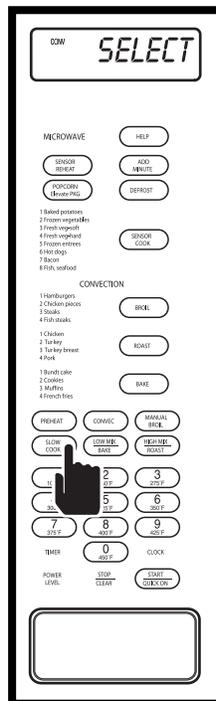

Figure 3-86.
2. Press SLOW COOK key, “SELECT - TEMP” will flash on display. (See Figure 3-86)